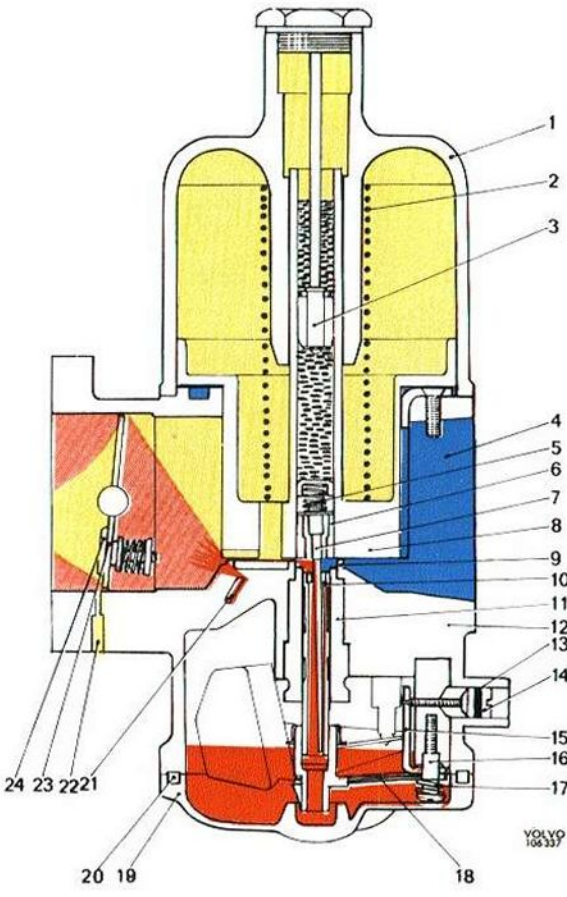

Fig. 2-84. Cold starting, principle
The carburetor consists of a carburetor housing (12, Fig. 2-84), the lower part of which is designed as a floatchamber and a upper part which is called a suction chamber (1). A movable spring-loaded air valve (8) is located in the suction chamber. It is the lower section of the valve which regulates the volume of air admitted. The suction chamber is connected by channels to the space between the carburetor throttle and valve.